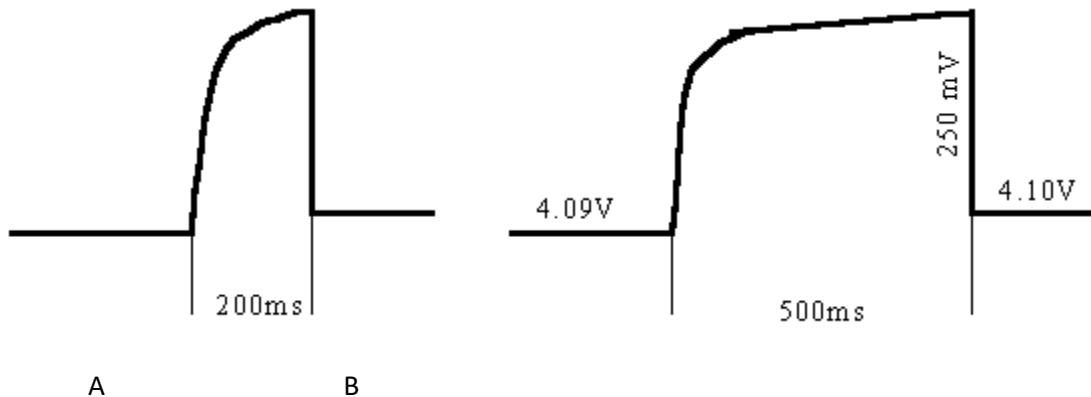

Figure 20-16
Figure 20-16 above shows voltage overshoot during constant 1C current charge (A) with voltage limit 4.1V, (B) with time limit 0.5s. ABTS 4.0 and 2ADC machine. You could observe this on an oscilloscope.